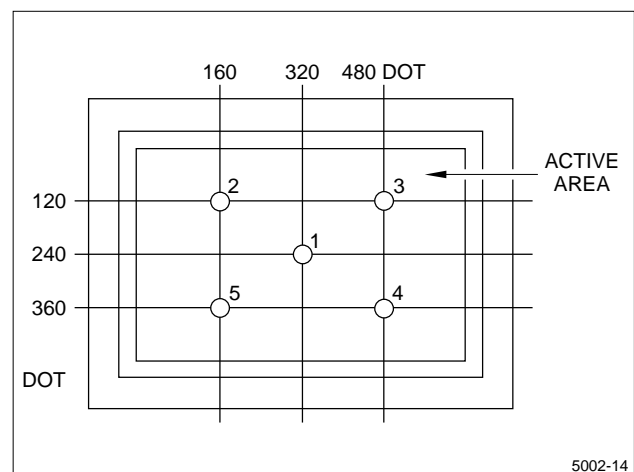

Figure 12. Measuring Points (1-5)
**NOTE:** Ratings are defined as the average brightness inside the viewing area specified in Figure 12.